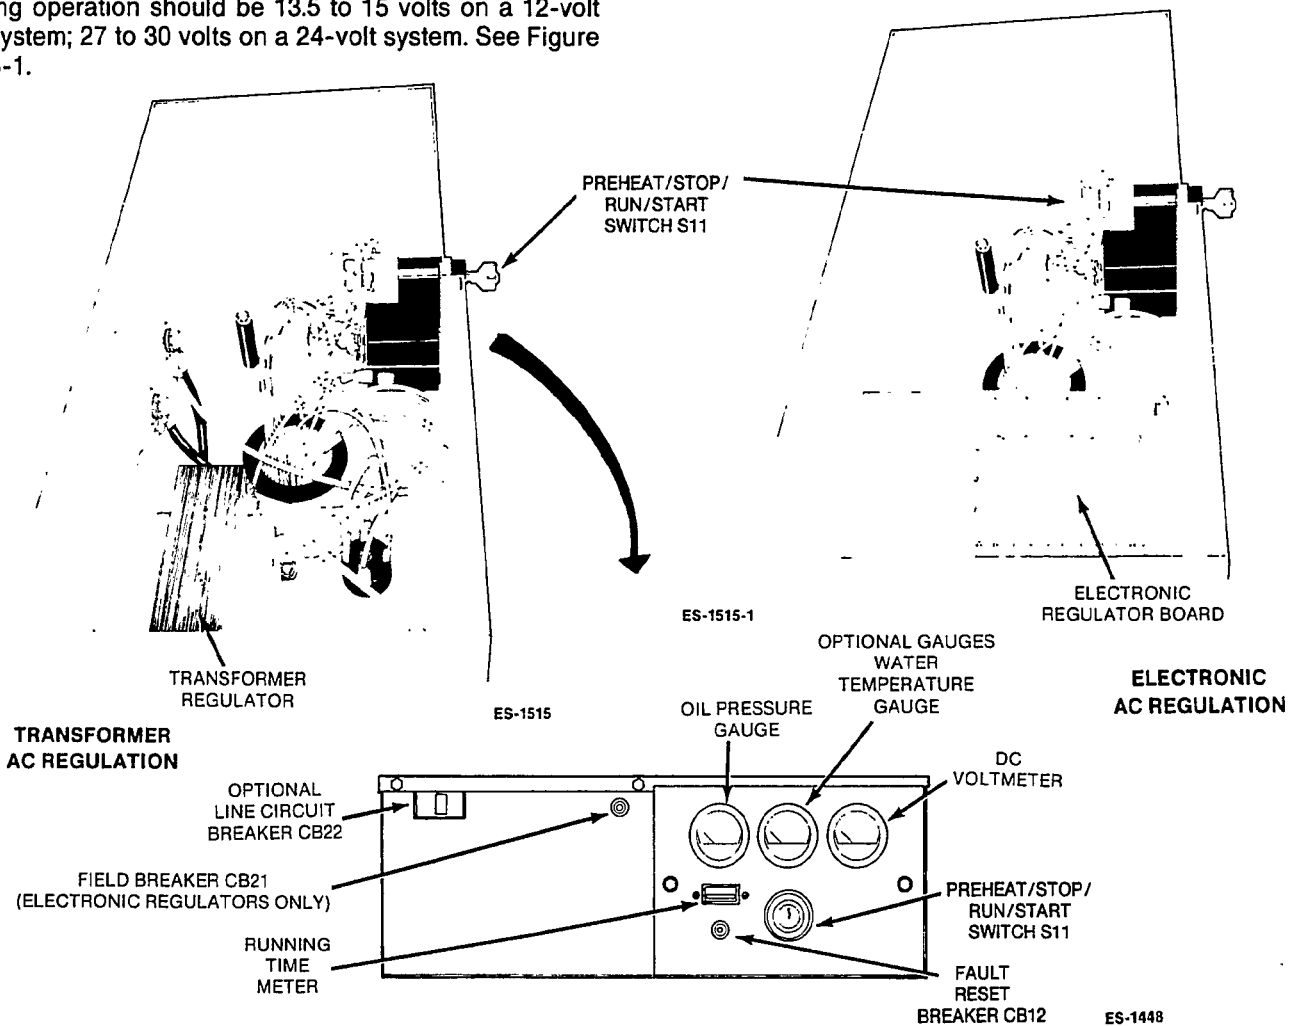

FIGURE 3-1. DKC/DKD ELECTRIC START AND LAND SET CONTROL BOX
**DC Voltmeter (Optional):** Normal battery B+ voltage during operation should be 13.5 to 15 volts on a 12-volt system; 27 to 30 volts on a 24-volt system. See Figure 3-1.